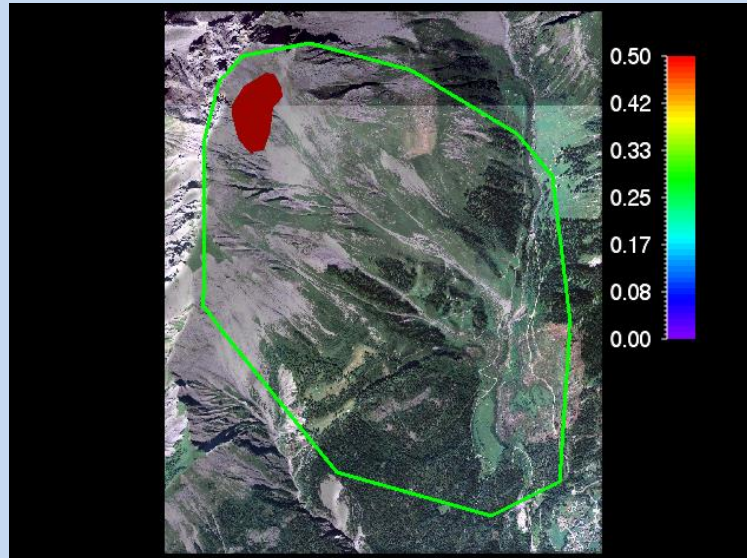

Figure 3.38: Input file with big calculation domain
- Draw a rough calculation domain as explained above, see Figure 3.38 below.